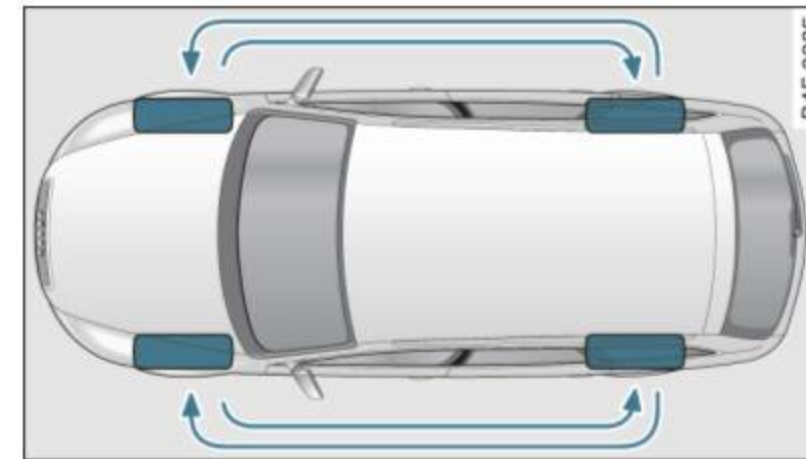

Fig. 222 Rotating tires for more even wear
- Please rotate tires as shown ⇒ *page 297*, fig. 222.